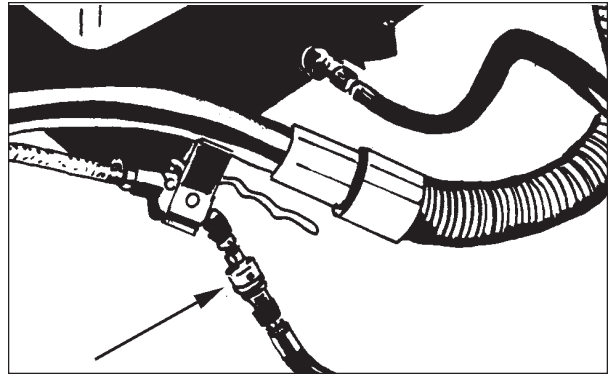

Figure 4
2. Connect the solution hose to the extractor and the floor tool. To fasten the quick disconnect fitting, slide the knurled collar on the female coupling away from the opening. Push the male coupling into the female coupling. See figure 4